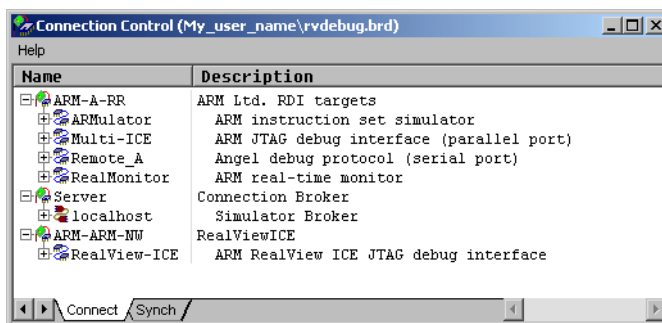

Figure 4-2 Connection Control window
2. Select **Target** → **Connect to Target...** to display the Connection Control window, shown in Figure 4-2.
Figure 4-2 shows the default connections set up after you first install RealView Debugger. The contents of this window depend on the autodetected targets available to you. If you have installed a Custom configuration your window looks different.